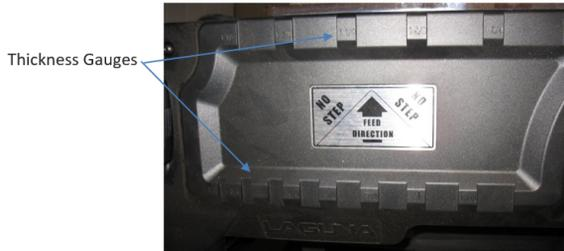

Figure 8: Thickness Gauge
The top of the planer is a thickness gauge. Material thickness can be quickly identified by placing it on edge into the various gauges and reading the corresponding measurement (Fig. 8).
3. Use the Table Height Adjustment handle (Fig. 8, A) to raise the table until the infeed roller is approximately 1/16" above the calibrating board.